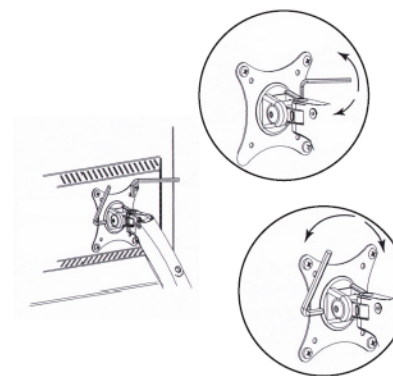

Fig. 7
- Tighten the screws to adjust the load o the monitor as shown in Fig .7.